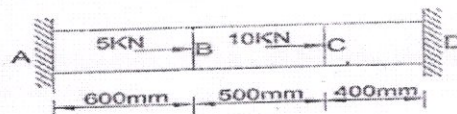

Fig 1
- Q.1 a) A straight uniform bar AD is clamped at both ends and loaded as shown in fig. 1. Initially the bar is stress free. Determine the stresses in all two parts (AB, BC) of the bar if the cross sectional area of the bar is 1000 mm^2 . Take $E = 2.1 \times 10^5 \text{ Mpa}$